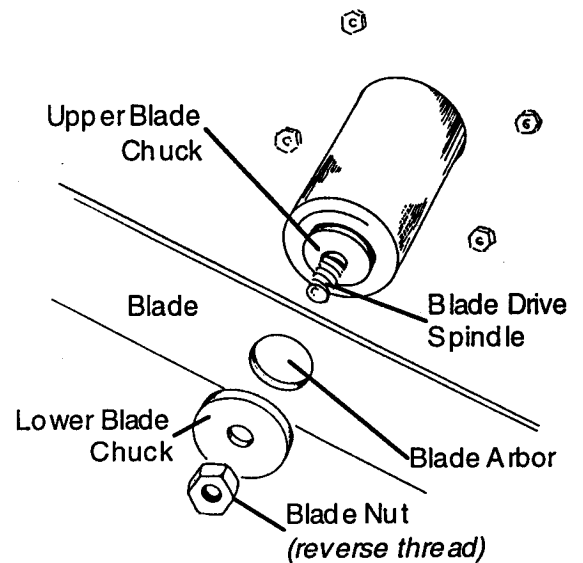

Figure 23
- Place the flattest side of the lower blade chuck against the bottom of the blade and tighten the blade nut counterclockwise until tight (Figure 23).